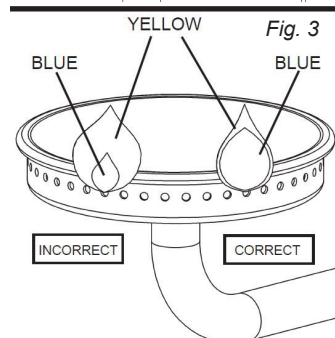

Fig. 3
- Visually check burner flame (Fig. 3). A **CORRECT FLAME** should be blue with a small amount of yellow at the tip. An **INCORRECT FLAME** is excessively yellow and irregular. If an incorrect flame occurs, turn control knob to OFF position, turn OFF gas cylinder valve, allow unit to cool and then clean burner. Let burner completely dry before re-lighting.